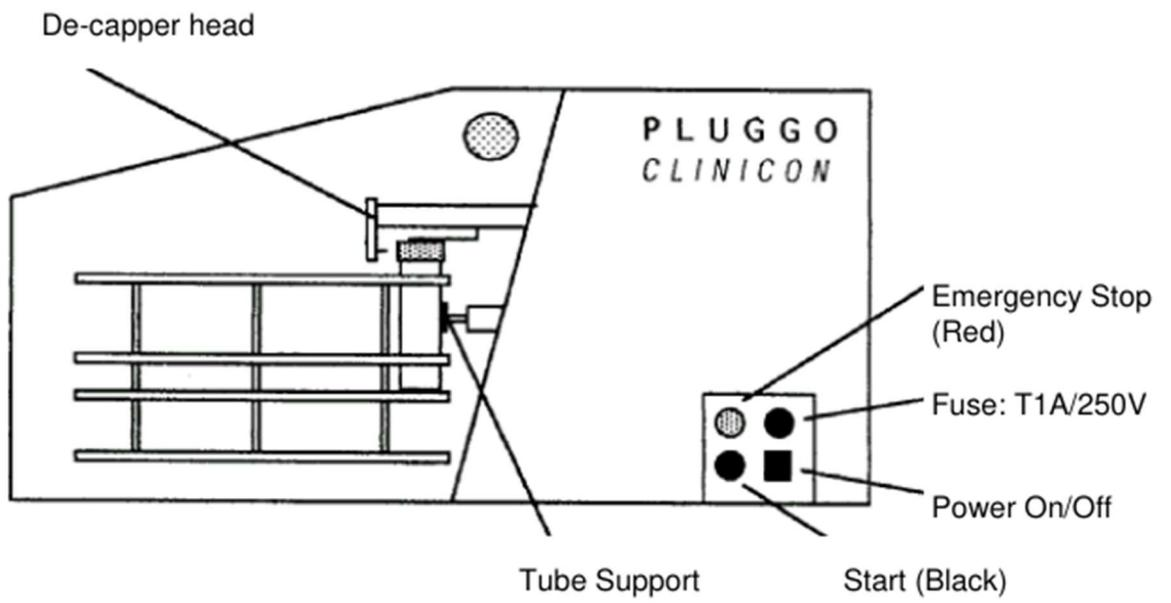

Figure 2: Right side view with control panel
7. Plug the power cord into a supply connector with protective ground. Press the rectangular power switch on the right side of the unit. Check that the light on the power switch is now lit. **See figure 2.**